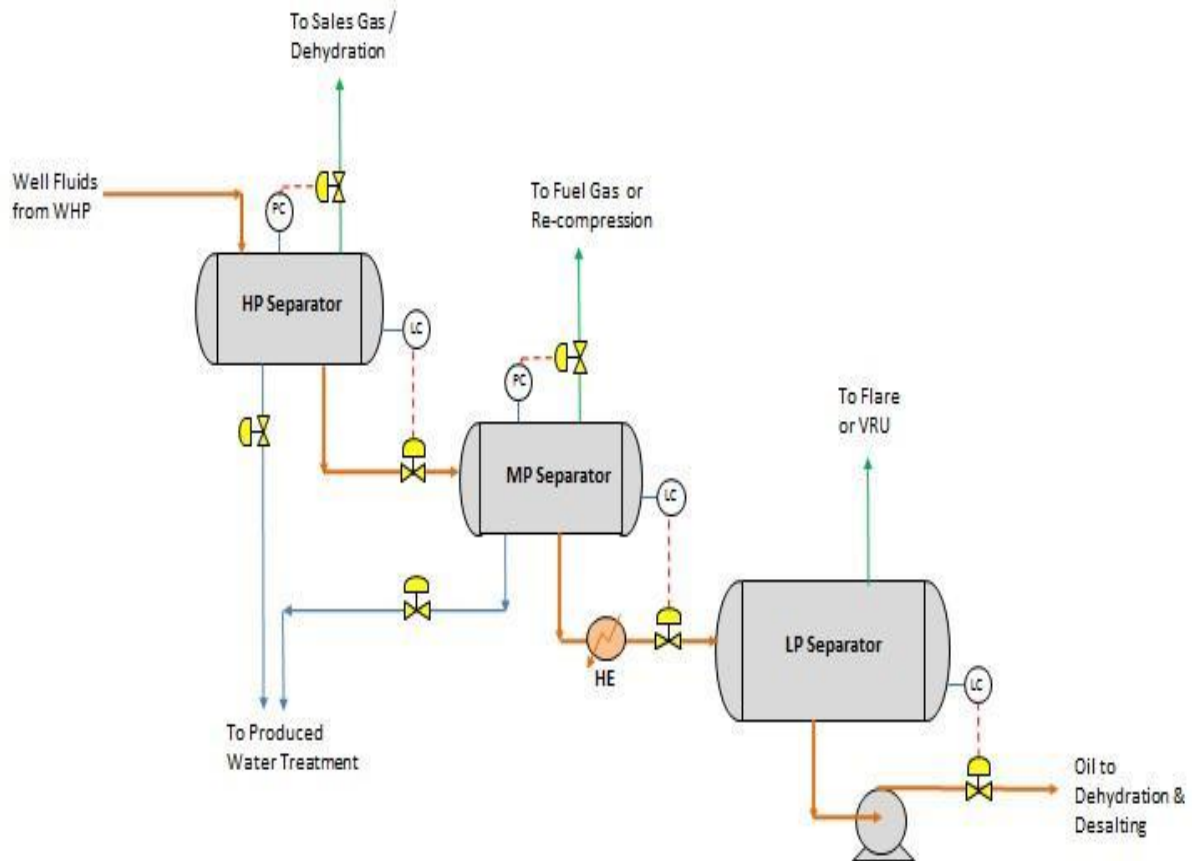

Figure 3: Typical 3 Stages Separation
- In this case, wells with decreased well pressure would be rerouted to a lower pressure separator, thus maximizing production. Figure 3 shows a typical flow scheme of 3 stages separation.